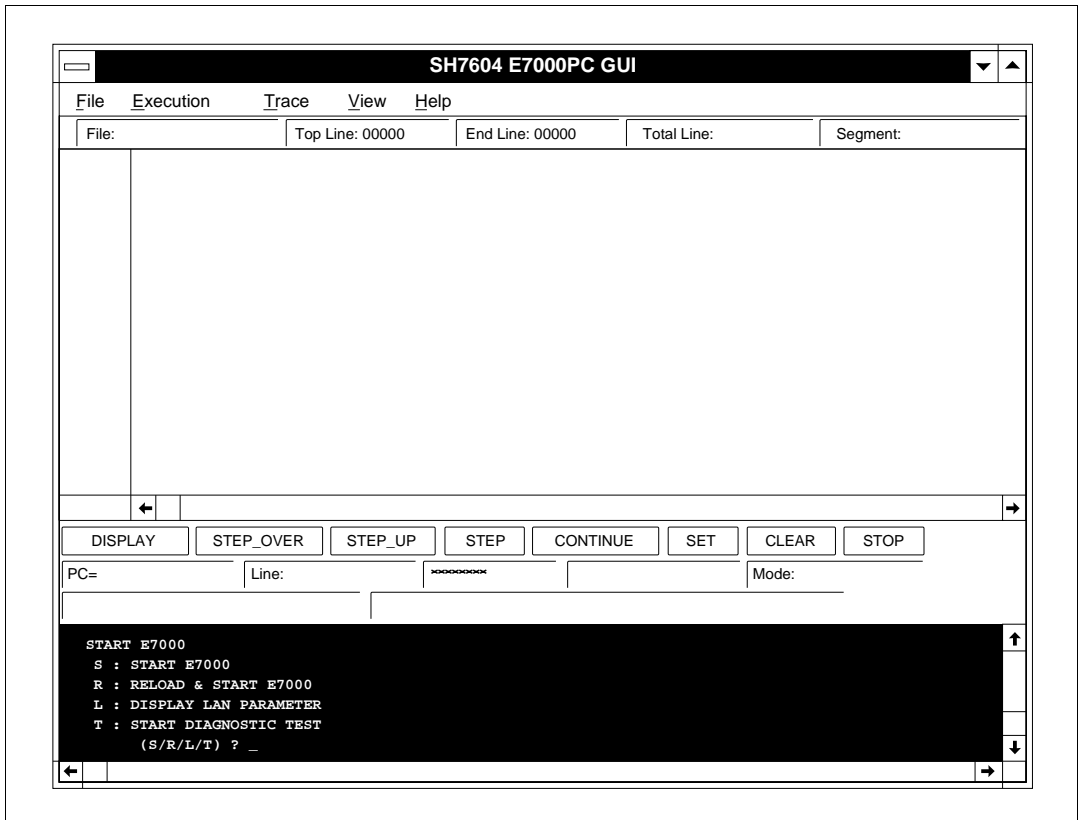

Figure 4-2 Display at GUI-SH Initiation
- (1) Place the mouse pointer on the GUI-SH icon.
- (2) Double-click the left button of the mouse.
- (3) The GUI-SH base window shown in figure 4-2 appears.
- (1) Press the (Ctrl + Tab) keys to select the SH7604 E7000PC GUI group window. When selected, the window title is highlighted.
- (2) Press the (←) or (→) key to select the GUI-SH icon. When selected, the icon title is highlighted.
- (3) Press the (Enter) key.
- (4) The GUI-SH base window shown in figure 4-2 appears.